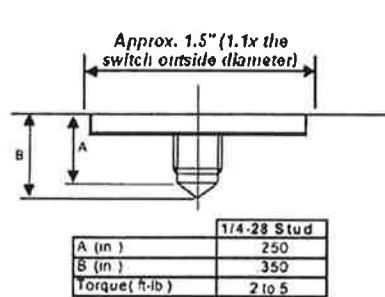
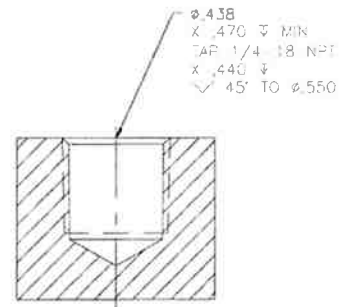

Figure 1A: Mounting surface preparation for 1/4 - 20 stud mount
Figure 1B: Mounting surface preparation for 1/4 NPT mount
Step 1: First, prepare a smooth, flat mounting surface and then drill and tap a mounting hole in the center of this area as shown in Figure 1A or Figure 1B. A precision-machined mounting surface with a minimum finish of 63 µin (0.00016 mm) is recommended. (If it is not possible to properly prepare the machine surface, consider using an adhesive mounting pad as a possible alternative as described below.) Inspect the area checking that there are no burrs or other foreign particles interfering with the contact surface.